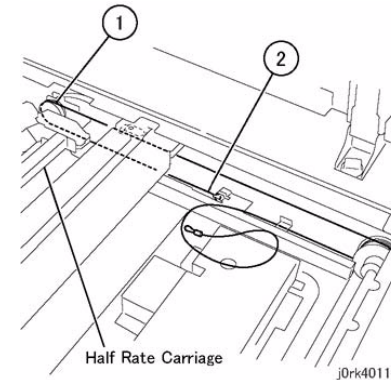

Figure 10 Installing Ball End
4. Install the ball end of the Carriage Cable. (Figure 10)